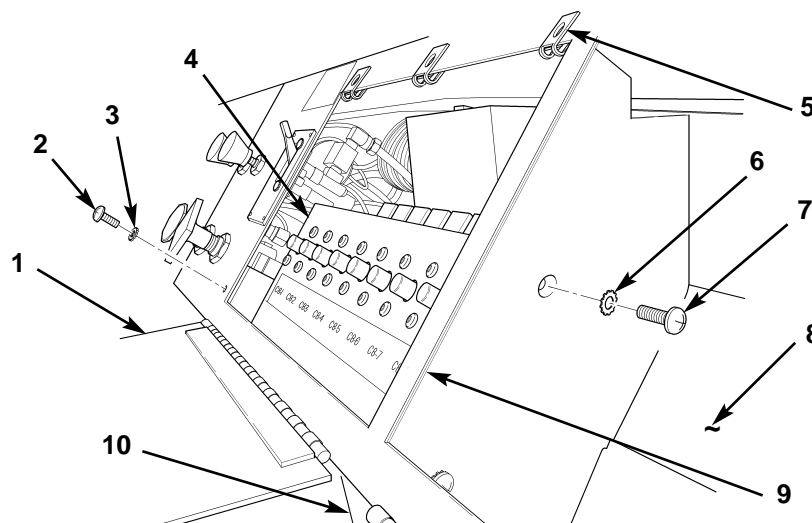

Figure 7. Removing Circuit Breaker Panel.
13. Turn three turnlock fasteners (figure 7, item 5) 90 degrees, and hinge open circuit breaker cover (figure 7, item 1).
14. Open glove compartment door (figure 7, item 10) to compartment (figure 7, item 8), and remove two screws (figure 7, item 7) and star washers (figure 7, item 6) from dash panel (figure 7, item 9) and circuit breaker panel (figure 7, item 4).
15. Remove screw (figure 7, item 2) and star washer (figure 7, item 3) from dash panel (figure 7, item 9) and circuit breaker panel (figure 7, item 4), and lift circuit breaker panel (figure 7, item 4) out to access wiring.